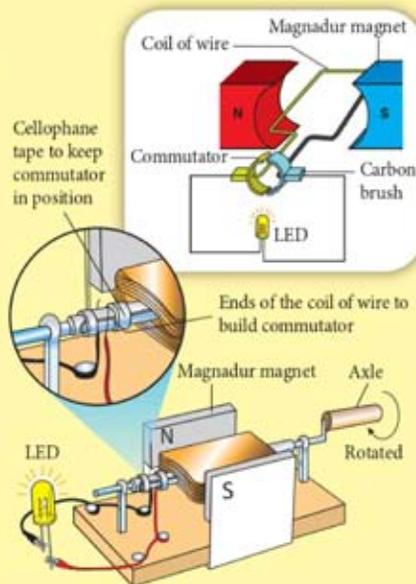

Figure 6.7 Simple d.c. generator
2. Construct a simple direct current (d.c.) generator as shown in Figure 6.7.